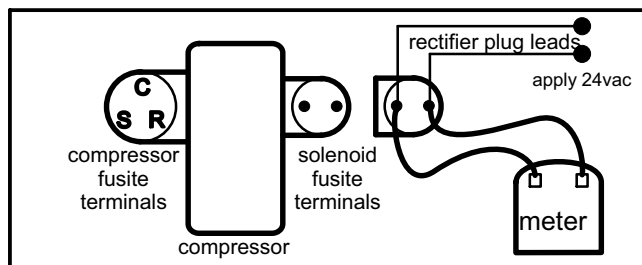

FIGURE 7
4. Turn the low voltage power back onto the unit. Supply 24VAC to the wires of the full wave rectifier plug. Set volt meter to DC volts and measure the DC voltage at the female connector end of the full wave rectifier plug. The DC voltage reading should be 1.5 to 3 volts lower than the input voltage to the plug wire leads. (EX: Input voltage is 24VAC output voltage is 22VDC). See figure 7.